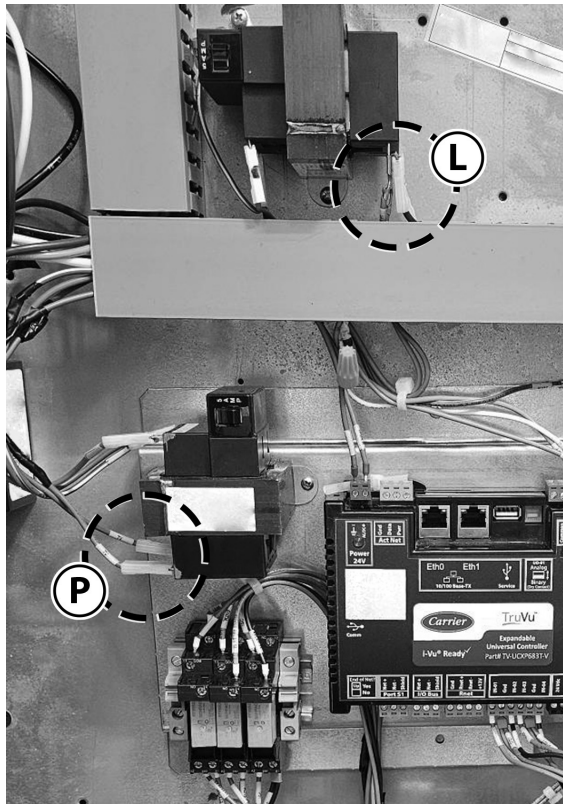

Fig. 15 — High Voltage Connection between TRAN1 and TV XFMR
7. For units without piggy-back connectors on the high-voltage leads from TRANS1, disconnect the TRANS1 high-voltage leads. Then, connect the piggy-back connectors from the main harness: route “TV XFMR H1” to “PRIMARY XFMR H1,” and “TV XFMR H2” to “PRIMARY XFMR H2.” Once connected, reconnect the leads to TRANS1 accordingly. (See Fig. 15.)